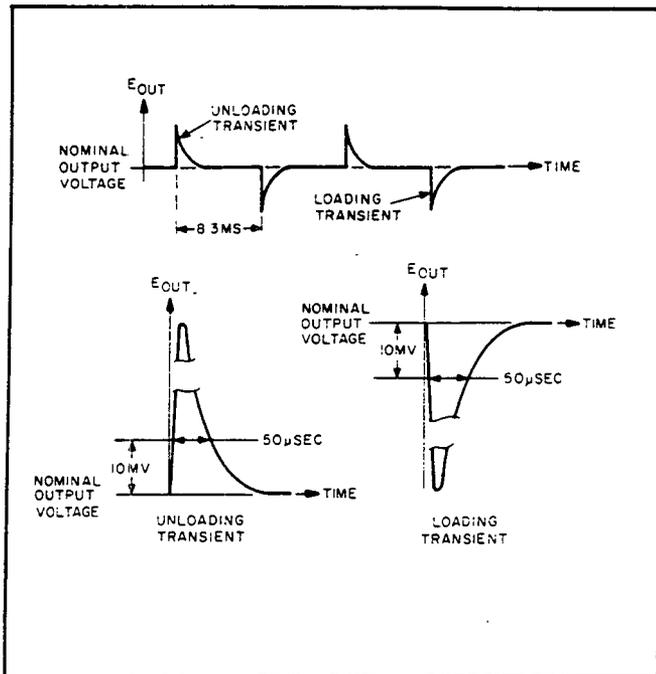

Figure 5-5. Load Transient Recovery Time Waveforms
k. Starting from the major graticule division representing time zero, count to the right 50 $\mu$ sec and vertically 10mV. Recovery should be within these tolerances as illustrated in Figure 5-5.